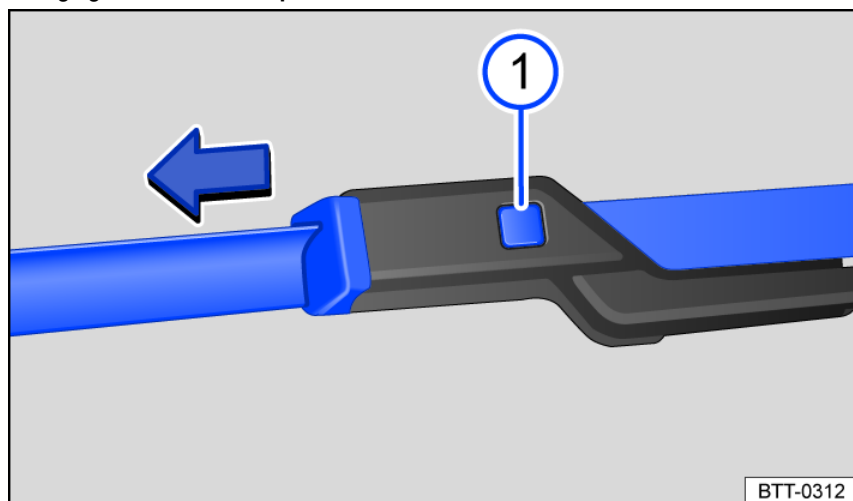

Fig. 134 Changing the windshield wiper blades.
- Press and hold the release button and remove the wiper blade at the same time in the direction of the arrow fig. 134 ①.